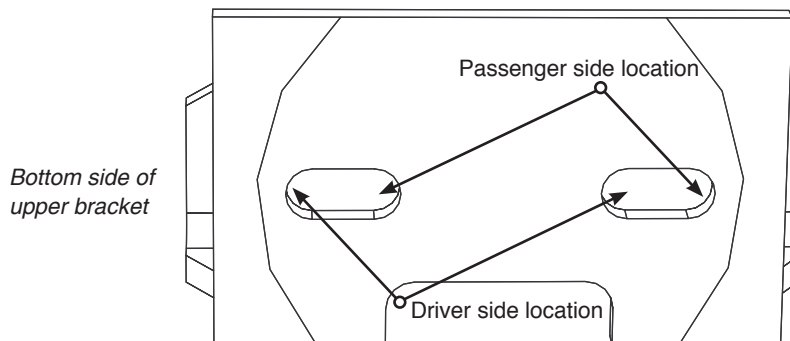

fig. 2
The upper bracket (B) has two slots to use for mounting the bellows and will be specific to which side the assembly is mounted. Figure 2 shows the upper bracket and the correct holes to use for driver side and passenger side installation.
2. Attach the upper bracket to the bellows using the 3/8"-24 bolt (G), lock washer (I) and flat washer (H). Adjust the bracket forward or rearward depending on which side you are mounting the assembly (fig. 2). Tighten securely.